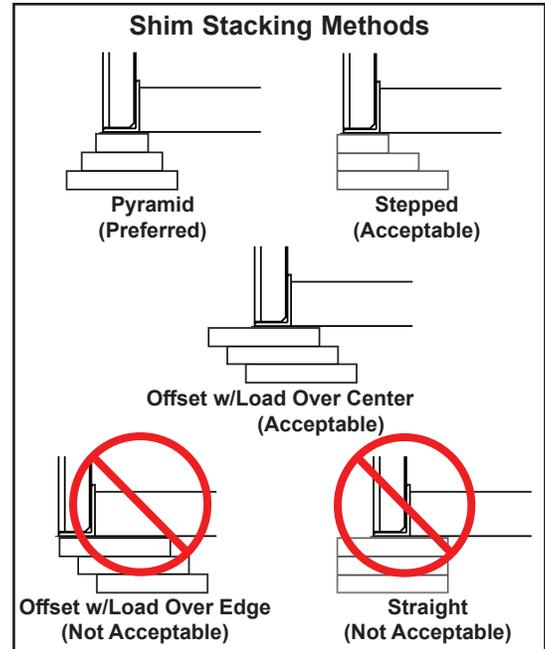

Figure 13
- a. Install shims under maintenance prop (A) where prop attaches to leveler frame. Make sure prop is solidly shimmed.
- b. Raise maintenance prop (A) to the service (upright) position and lock prop in this position using an OSHA approved locking device.
18. Install shims at locations (B) using an appropriate shimming method (see Figure 13). Both hoist cylinder trunnions must be solidly shimmed the entire length of the trunnion. Make sure the trunnions are level from side-to-side as well as from front-to-back.